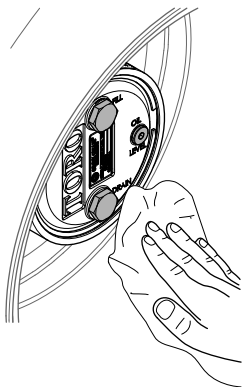

Figure 67
3. Wipe clean the planetary and brake housings (Figure 67).